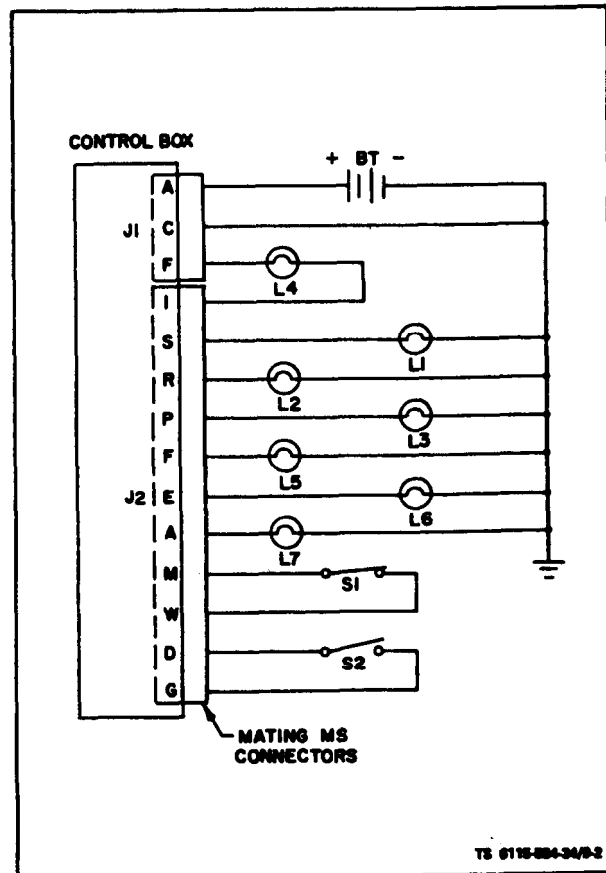

Figure 9-2. Testing Engine Control Circuitry
(1) Batteries, 24 volts lead acid (BT1 and 2).
(2) Switch, SPST S1, S2).
(3) Lamps, 24V (L1, L2, L3, L4, L5, L6, L7).
b. Test Setup. Connect control box and test equipment as shown in figure 9-2.